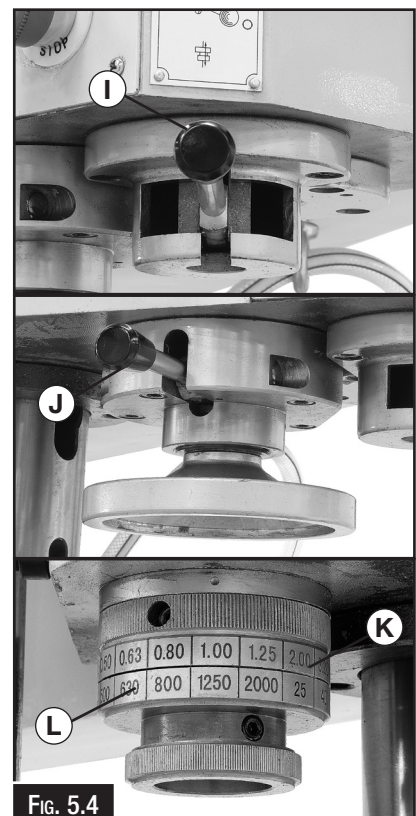

Fig. 5.4
- N. Spindle & Feed Handle:** Used to raise and lower the spindle. Also when pulled towards the operator, engages the auto feed to the spindle. (Fig. 5.4)